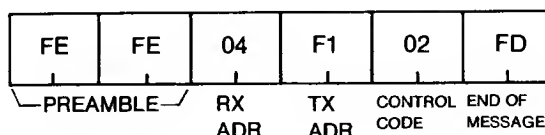

Fig. 12
- (1) The controller is able to ask the IC-735 what its tuning range is.
- (2) When the controller asks the IC-735 for the frequency tuning range as in Fig. 12, the IC-735 returns the packet